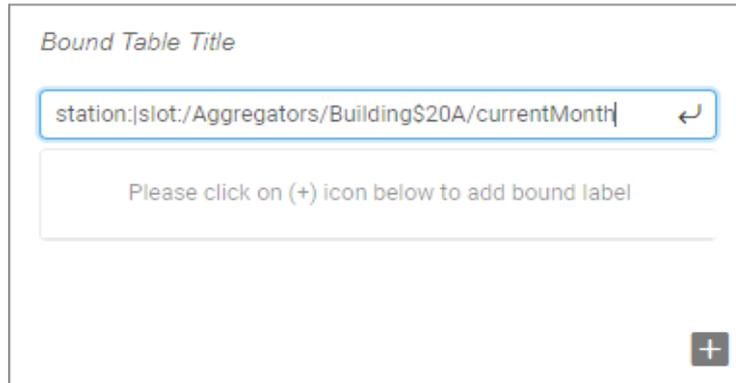

Figure 100 – PUTTING THE SLOT VALUE TO THE INPUT BOX
- Once clicked you can see an input box opened (Figure 100).